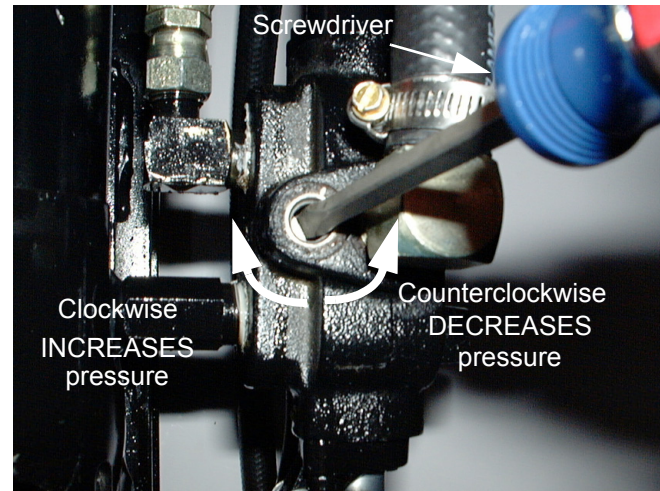

Figure 2
6. Depending on the log splitter pressure, turn the adjustment screw clockwise or counterclockwise 1/8 of a turn using a flat-blade screw driver. See Figure 2.